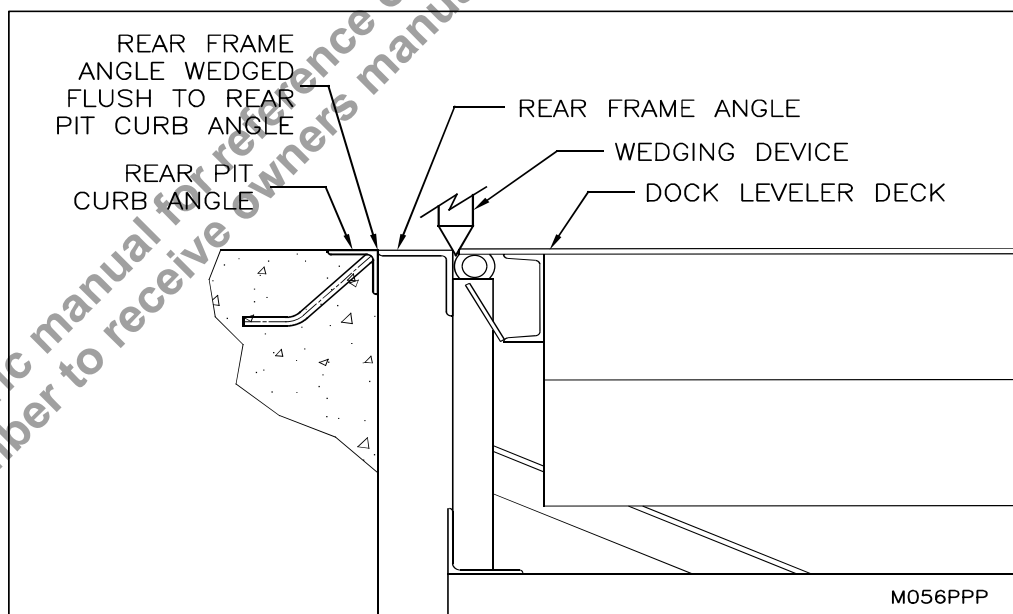

Figure 15: Wedging the Rear Frame Angle to the Rear Pit Curb Angle
4. ___ Make sure the rear pit curb angle is straight and level prior to installation. Make sure the dock leveler rear frame angle (or flat bar) is straight to match the rear pit curb angle. If the rear frame angle (or flat bar) is not straight then force the angle back to match the straight rear pit curb angle using a wedging device between the frame angle and the back of the deck as shown in "Figure 15: Wedging the Rear Frame Angle to the Rear Pit Curb Angle" on page 16. Tack weld the straightened angle to the rear pit curb angle. Repeat the wedging process as required over the length for the rear frame angle.